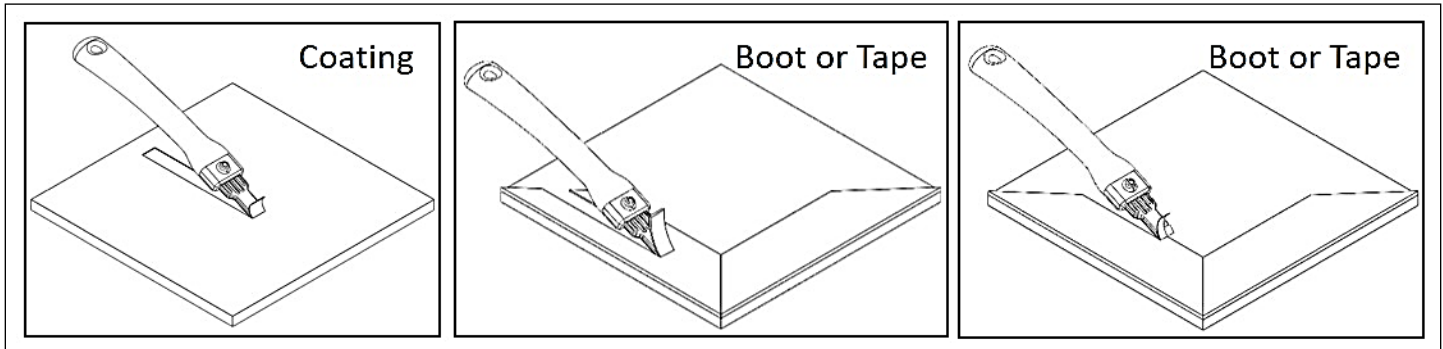

Figure 9. Material Removal
3.2.4. Apply forward pressure and guide the TSB through the coating, boot or tape material. See **Figure 9**.